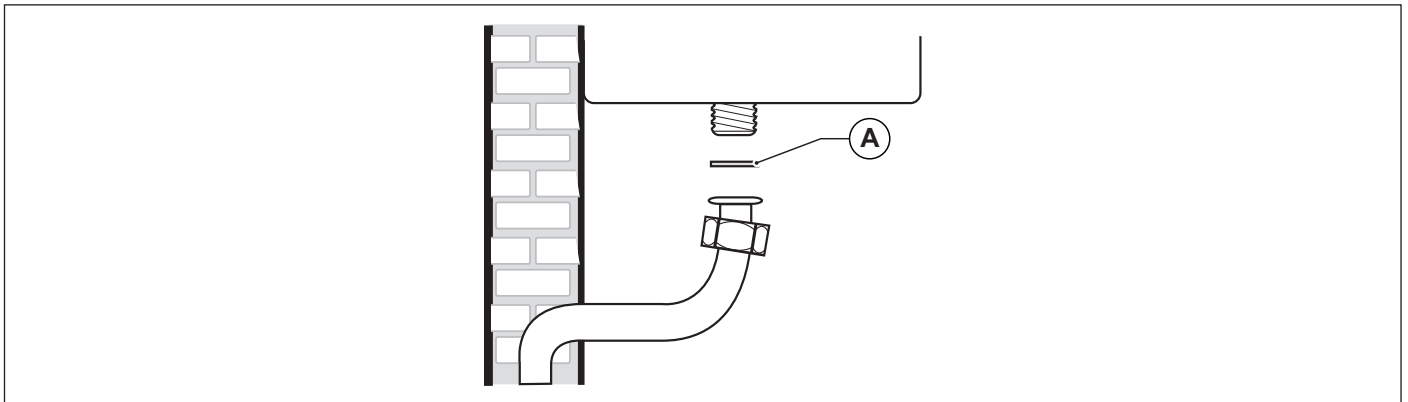

Fig. 19 Connection to gas mains
When connecting the boiler to gas supply network, it is **COMPULSORY** to install an appropriately sized gasket (A) made from suitable material (see Fig. 19 Connection to gas mains).